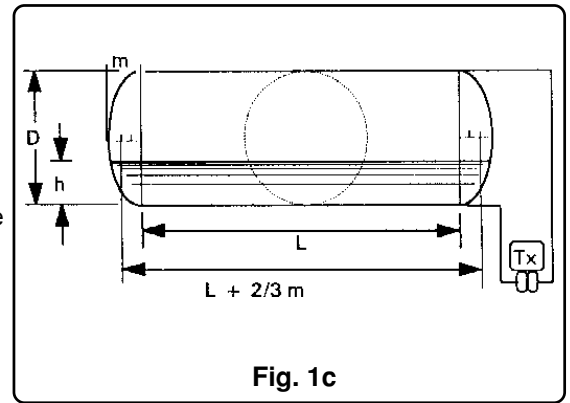

Fig. 1c
c) Cylindrical vessel with elliptical or pseudoelliptical ends (see Fig. 1c). Transmitter measuring the whole vessel height.
where m is the length of the minor ellipse axis (see Fig. 1c)